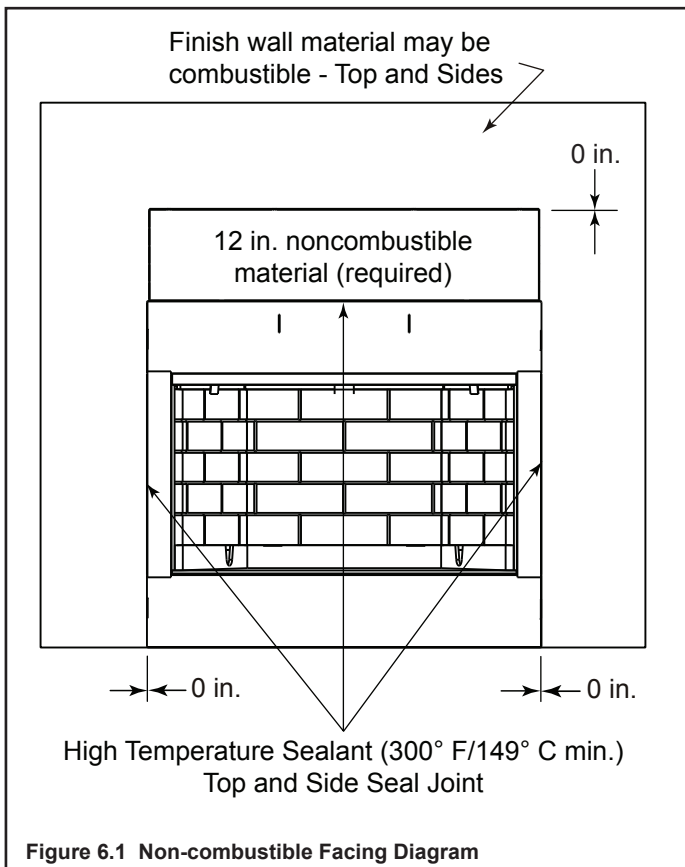

Figure 6.1 Non-combustible Facing Diagram
- The Villa Gas appliance requires the front of the appliance to be covered with noncombustible material (e.g.: stone, marble, tile, etc.) A maximum of one (1) inch of exposed metal on all sides is permitted.
- Seal joints between the finished wall and appliance top and sides using a 300° F minimum sealant. Refer to Figure 6.1.